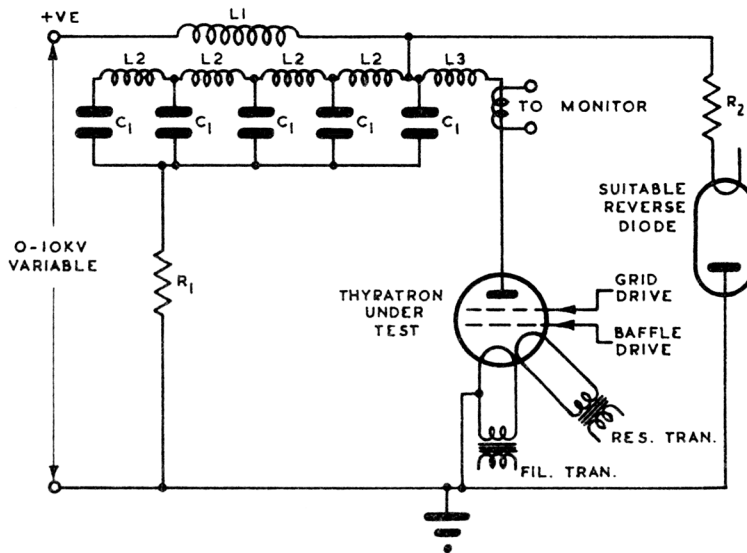

FIG. 3
- K. A simpler method of triggering which results in increased jitter is shown in figure 3.
The valve shall be tested in a test rig similar to that shown in figure 3. The values of the specified parameters shall be at the discretion of the manufacturer provided they satisfy the given limits.
The alternative grid and baffle triggering circuit shown in figure 3, fed at the junction of the resistances with the grid circuit parameters as specified, may be used at the discretion of the manufacturer.